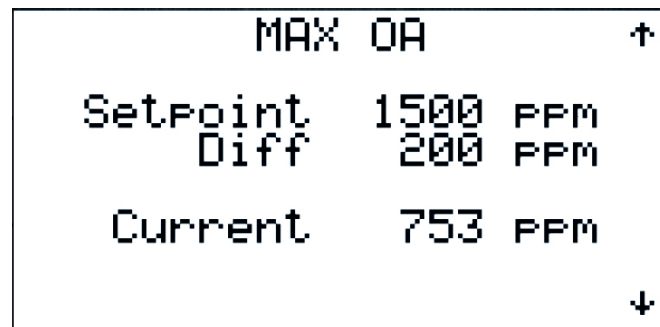

Figure 74
2.3.3.2.6. Tuning – Maximum Outdoor Air (Figure 74)